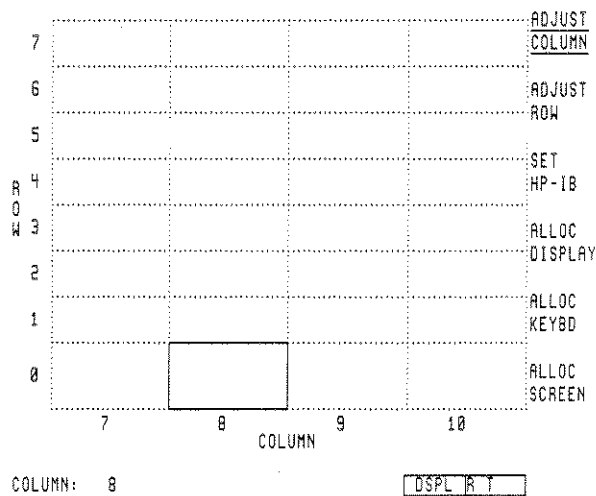

Fig. 12
4. Use the display knob to place the cursor on an empty address, as in Figure 12. (On the display screen the cursor is the highlighted box.)